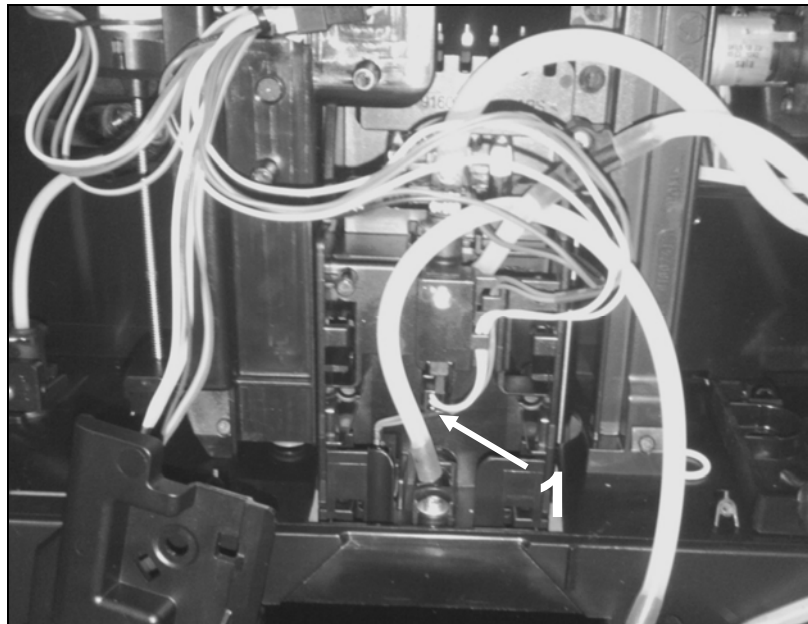

Figure 001-52: Spout Monitor Switch
5. Disconnect the wiring harness from the spout monitor switch. See Figure 001-52, Item 1.